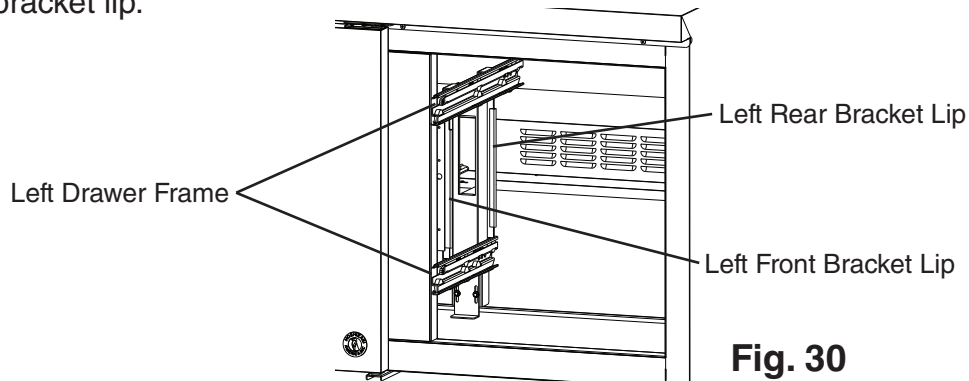

Fig. 30
- 22) Place the left drawer frame in the appliance and align under the left rear bracket and tighten, then align under the left front bracket and tighten. See Fig. 30.